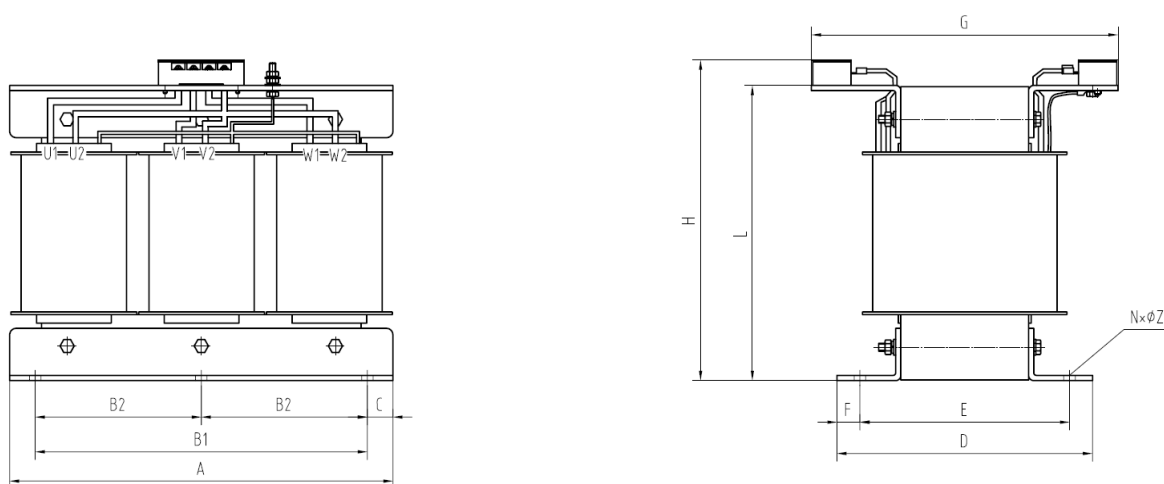
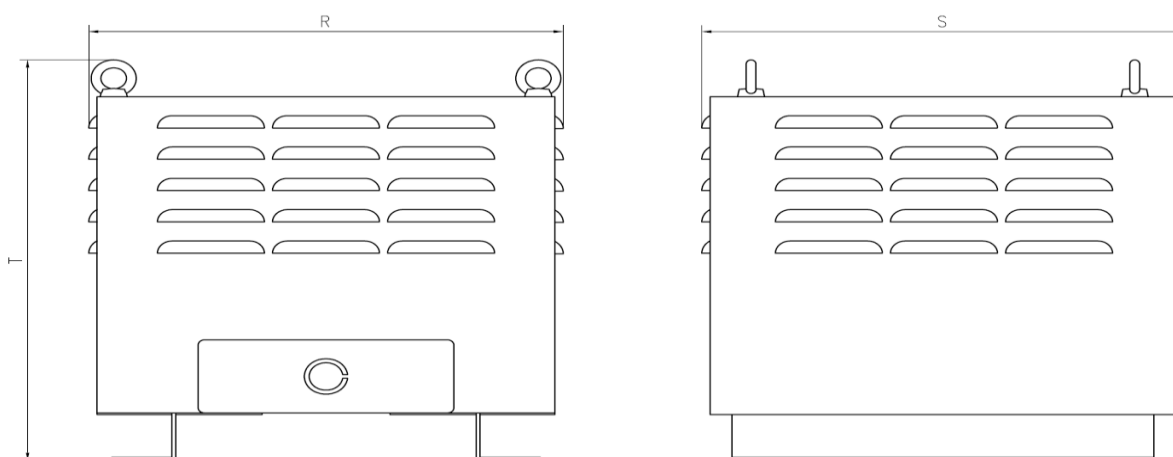

Fig. 1 Appearance dimension of BS three-phase insulation transformer
Fig3. Appearance dimension of protection cabinet
5.2 Refer to the table 3 for appearance dimension of transformer, and refer to the Fig.1 ~ Fig. 3 for appearance diagram.